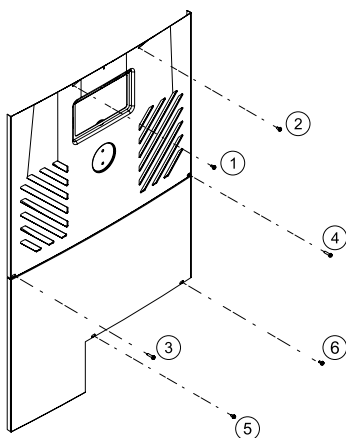

Figure 65. Sheet Metal Screws to Remove Control Panel
If service access to the heater is required, it is accomplished by removing the control cover panel and service access panel (Figure 65) to provide a wide access to get to (1) compressor, (2) heat exchanger, (3) thermal expansion valve (TXV), (4) reversing valve/solenoid valve (if equipped), (5) flow switch (if equipped), and (6) sensors (water, ambient and coil). To gain access, follow the steps below:
2. Remove the heater's front control cover panel by unscrewing the six (6) screws using a 1/4" hex head screwdriver. See Figure 65.